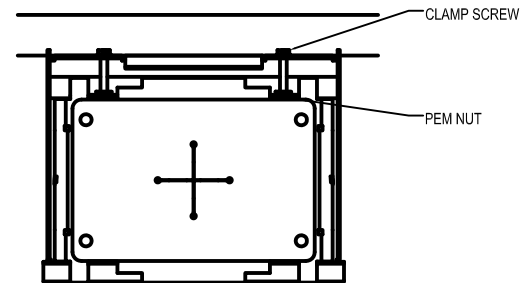

FIGURE. 2
2. LOOSEN 2 CLAMP SCREWS ON BACK OF LUMINAIRE, SO THAT NO SCREW THREADS ARE SHOWING PAST PEM NUTS. SEE FIGURE 2. SET MOUNTING PLATE AND GASKET ASIDE. NOTE: DO NOT REMOVE SCREWS OR CLAMP!